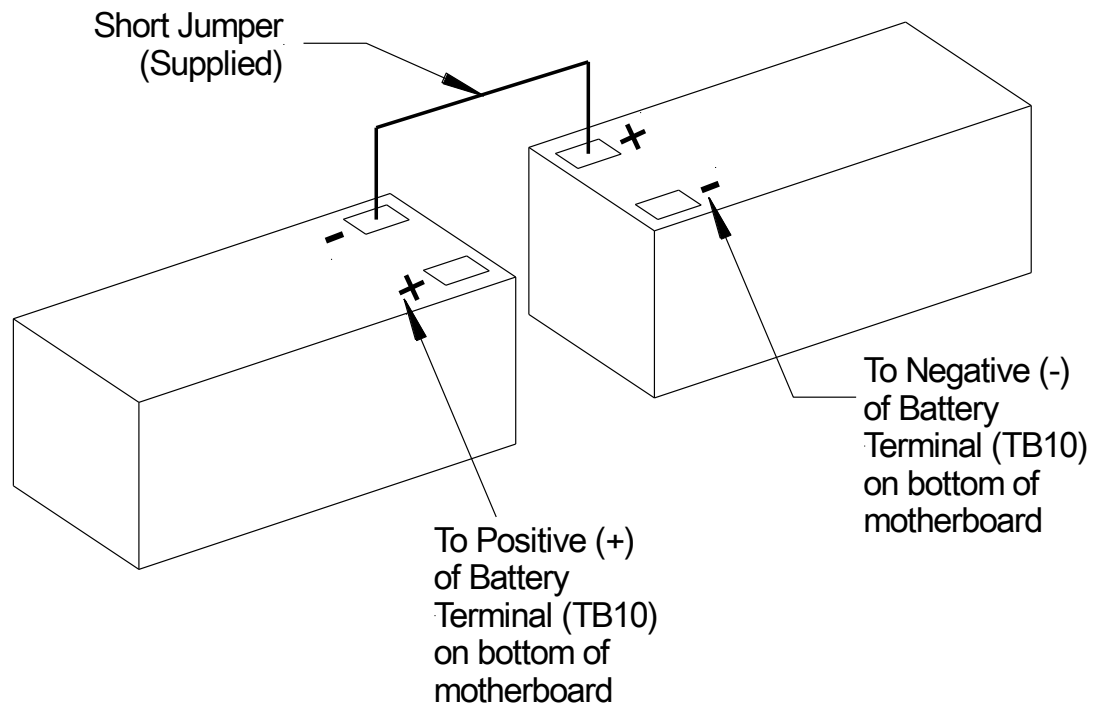

**Figure 4-14 Battery Wire Connections**
1. Connect the supplied red battery wire to the (+) terminal and the supplied black battery wire to the (-) terminal of TB10 (see Figure 4-14).